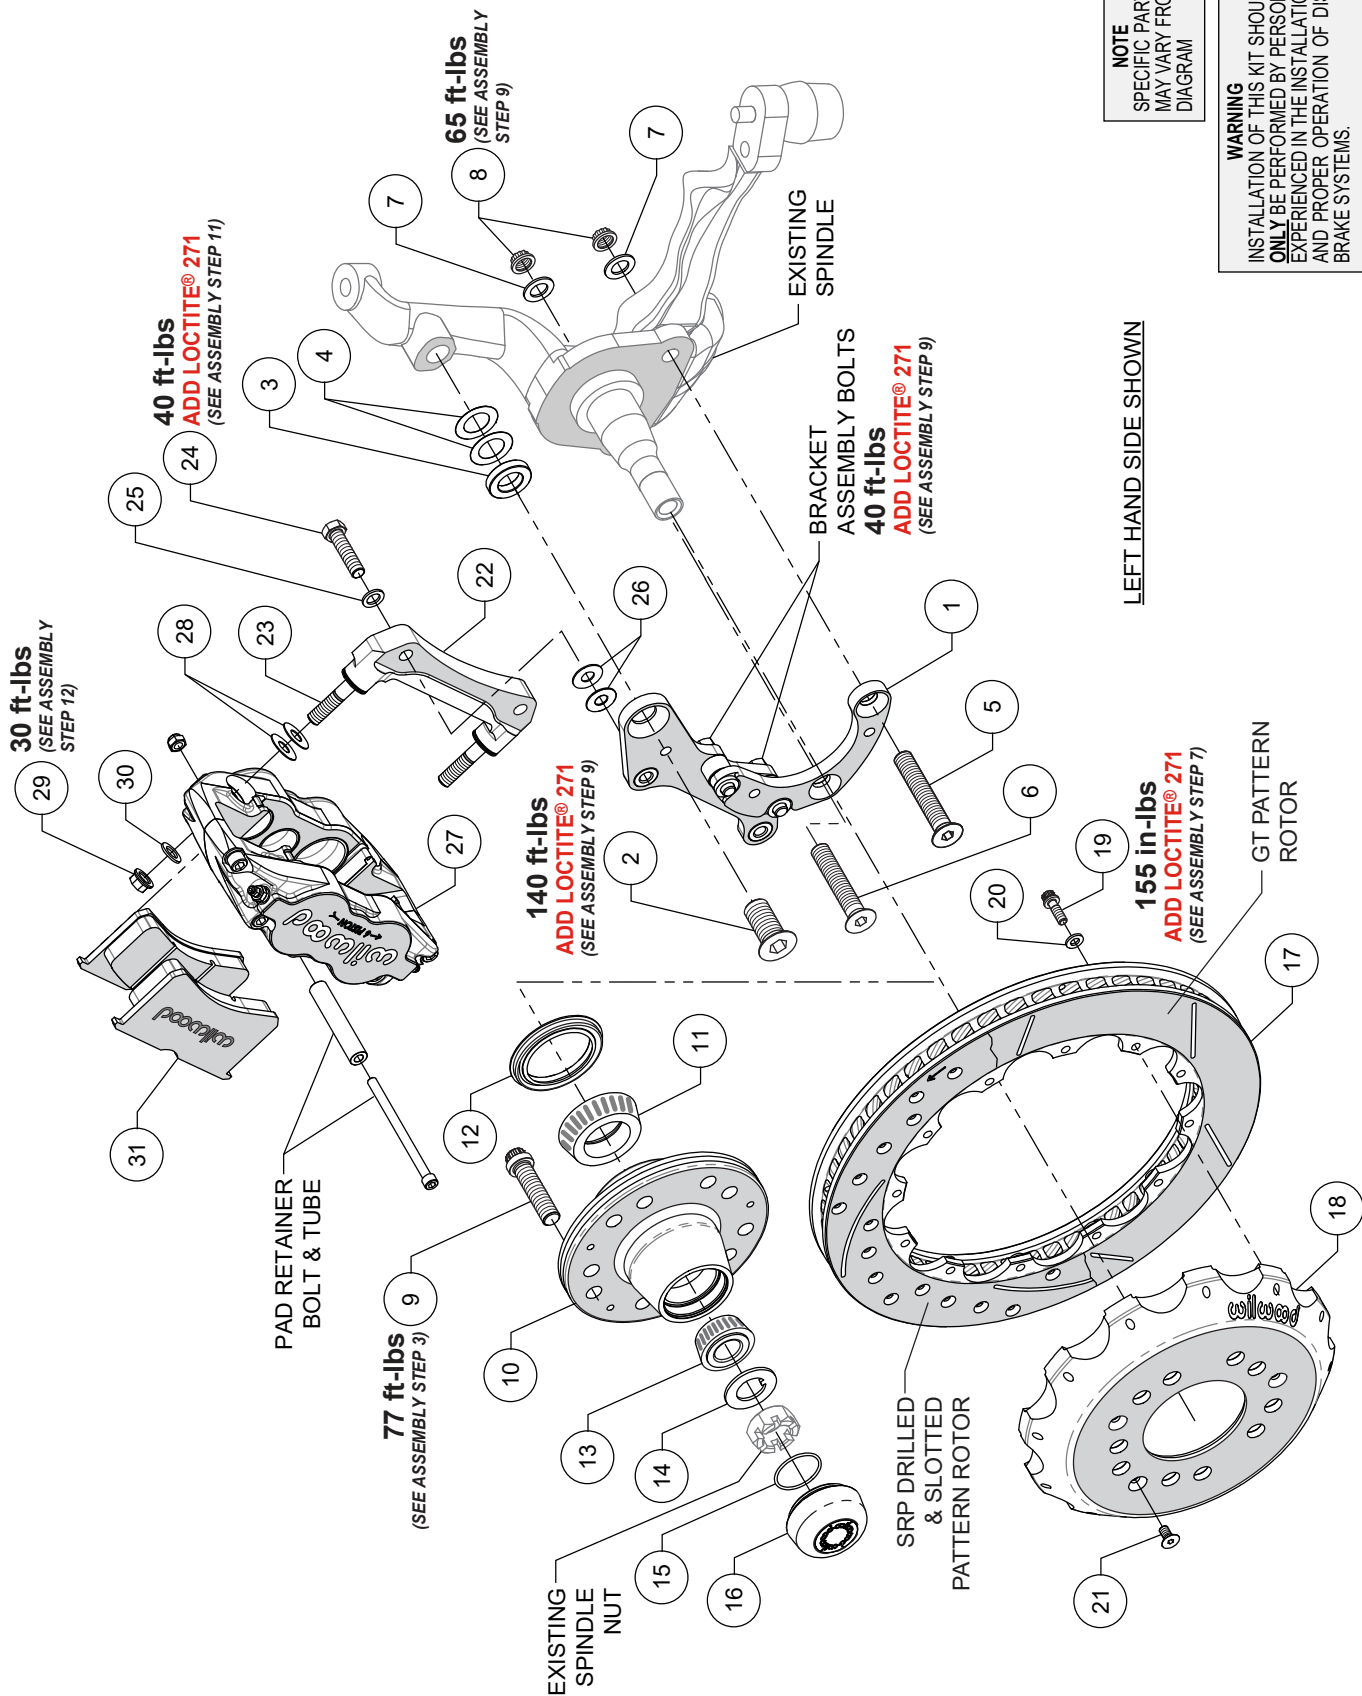
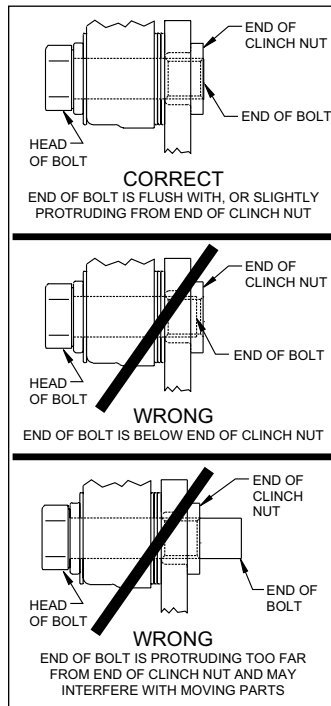

Figure 1. Typical Installation Configuration
Figure 4. Clinch Nut Engagement Diagram
NOTE: Numbers in parenthesis refer to the parts list and Figure 1 on the preceding pages.
CAUTION: All mounting bolts must fully engage clinch nuts. Be sure to check that all bolts are either flush or protruding through flanged side of clinch nut after shimming, Figure 4.
STEP 1 Bracket assembly (1) should initially be installed with clean, dry threads on the mounting bolts. The bracket has been assembled at the factory for alignment purposes. **Loosen the two bolts that secure the brackets together so that the bolts are hand tight only.** This will enable the bracket assembly to be adjusted to accommodate various spindle tolerances during assembly. Orient the bracket (1) as shown in Figure 1, and Photo 1. Install using bolt (2) on the upper hole of bracket while placing .250" thick spacer (3) and two .010" shims (4) between the spacer and spindle as shown in Figure 1 and Photo 2.
STEP 2 Install bolts (5 and 6), washers (7) and nuts (8) in the lower holes, Figure 1. Note the location of the longer bolt (5). Temporarily tighten the mounting bolts (5), followed by the two bracket-to-bracket bolts. **NOTE:** The bracket must fit squarely against the mounting points on the spindle. Inspect for interference from casting irregularities, machining ridges, burrs, etc. Later, after the bracket alignment has been checked, the nuts will be torqued to specification.
STEP 3 Install wheel studs (9) from the backside of the hub (10), Photo 3. Torque to value shown in Figure 1. **NOTE:** There are two five lug patterns in the hub (5 x 4.50" and 5 x 4.75"). Ensure the correct hub stud pattern is being used to fit the wheel application.
STEP 4 Pack the large inner bearing cone (11) with high-temp disc brake bearing grease (available from your local auto parts store) and install into the backside of the hub (10), Figure 1 and Photo 4. Install the grease seal (12) by pressing into the backside of the hub (10), Photo 4.
STEP 5 Pack the small outer bearing cone (13) with high temperature disc brake bearing grease and install into the front side of the hub (10). Slide the hub assembly onto the spindle. Secure using spindle washer (14) and existing OEM spindle nut, Figure 1 and Photo 5. Adjust bearings per OEM specifications and install new cotter pin (not supplied).
STEP 6 Screw dust cap (16) into hub (10). Friction created by the o-ring (15) on the dust cap keeps it from unscrewing. **NOTE:** The O.D. of the existing OEM spindle washer may be larger than the I.D. of the dust cap not allowing it to seat against the hub face. Therefore, use the spindle washer (14) supplied with the kit instead of the OEM washer.
STEP 7 Orient the rotor (17) and the hat (18) as shown in Figure 1 and Photo 6. Attach rotor to hat using bolts (19) and washers (20). Apply red *Loctite*® 271 to the bolt threads and torque to value shown in Figure 1 using a criss-cross pattern. For an added measure of security, the bolts may be safety wired using
STEP 8 Slide the rotor/hat assembly (17/18) onto the hub (10). **NOTE:** The hat must fit flush against the hub face or excessive rotor run out may result. Install rotor locator screws (21) to keep the rotor/hat assembly in place while continuing with the installation.
STEP 9 Check that the bracket assembly (1) is aligned parallel to the rotor, Photo 7. If not, adjust by adding or subtracting shims (4) on the upper bolt (2) between bracket and spindle, Figure 1. Once the bracket alignment is correct, remove the upper bolt (2), apply red *Loctite*® 271 to the threads and torque to value shown in Figure 1. Torque lower lock nuts (8) to value shown in Figure 1. One at a time, remove the bolts that secure the two brackets of the bracket assembly (1), apply red *Loctite*® 271 to the threads and torque to value shown in Figure 1.
STEP 10 **NOTE:** Please reference the caution statement at the beginning of the assembly instructions. The radial mount caliper bracket (22) should initially be installed with clean, dry threads on the mounting bolts. Orient the bracket, as shown in Figure 1 and Photo 9, and install using bolts (24) and washers (25). Initially place two .035" thick shims (26) on each bolt between the radial mount caliper bracket (22) and bracket assembly (1), Photo 8. Temporarily tighten the mounting bolts. Later, after the caliper alignment has been checked, the mount bolts will be secured using red *Loctite*® 271.
STEP 11 **NOTE:** This kit contains distinct right and left hand calipers that must be mounted in a specific direction, as described below. Initially place two .035" thick shims (28) on each stud (23) between the caliper and the bracket, as shown in Figure 1 and Photo 10. Mount the caliper (27) onto the bracket (22) using lock nuts (29) and washers (30), Figure 1. Temporarily tighten the lock nuts. Ensure that the caliper is mounted so the largest pistons are at the rotor exit end of the caliper, in relation to the forward rotation of the rotor. View the rotor through the top opening of the caliper. The rotor should be centered in the caliper, Photo 11. If not, adjust by adding or subtracting shims (26) on bolts (24) between the radial mount caliper bracket (22) and the bracket assembly (1). Always use the same amount of shims on each of the two mounting bolts. **NOTE:** The end of each bolt (24) must be flush with or slightly protruding from the head of the clinch nut of bracket assembly as shown in Figure 4. If necessary, place spare shims between washer (25) and radial mount caliper bracket (22) to achieve the proper clinch nut engagement. Once the caliper alignment is correct, remove the bracket mounting bolts (24) one at a time, apply red *Loctite*® 271 to the threads, and torque to value shown in Figure 1.
STEP 12 Remove the caliper pad retainer bolt, tube, and nut from the caliper. Insert the brake pads (31) into the caliper, with the friction material facing the rotor, as shown in Figure 1. Check that the top of the brake pad is flush with the outside